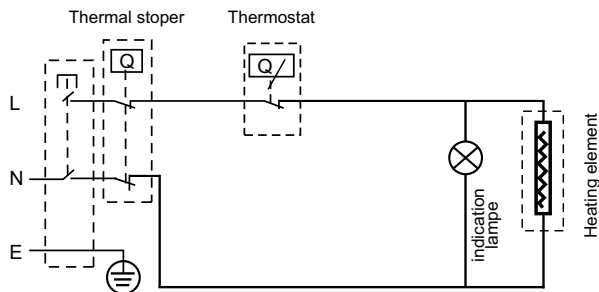

Fig. 10
- press the button, located at the center of the thermal switch, Fig.10;